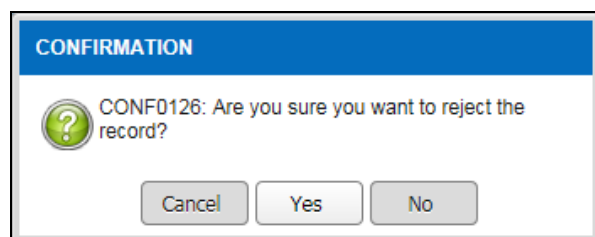

Figure 3.4.2-5 Confirmation Message
- Confirmation message will be displayed as Figure 3.4.2-5
- Click on the  button and information message will be displayed as Figure 3.4.2-6